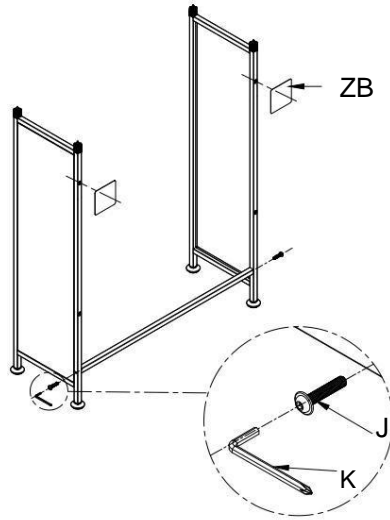

Figure 2
2.1. Use J to fix the connecting pipe (H) to the left and right lower side frames, and then use L and Y to install the two crossbars (G) as shown in Figure 2.
2.2 Use J to fix the connecting pipe (H) to A1 and A2, and then install the traceless sticker (ZB) as shown in Figure 2